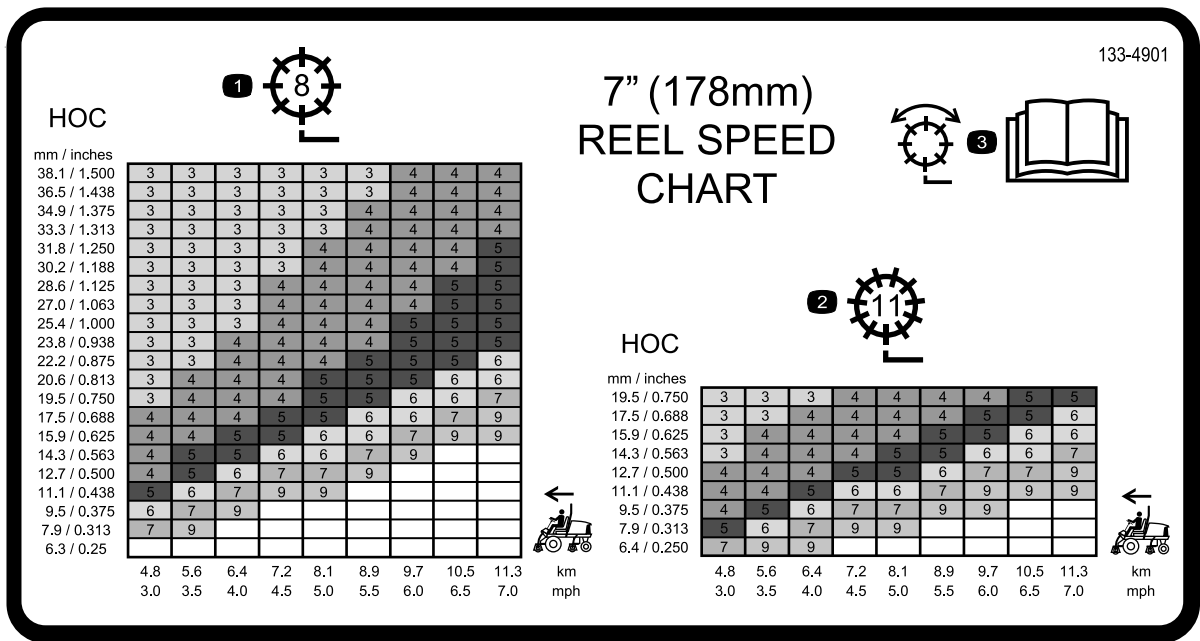
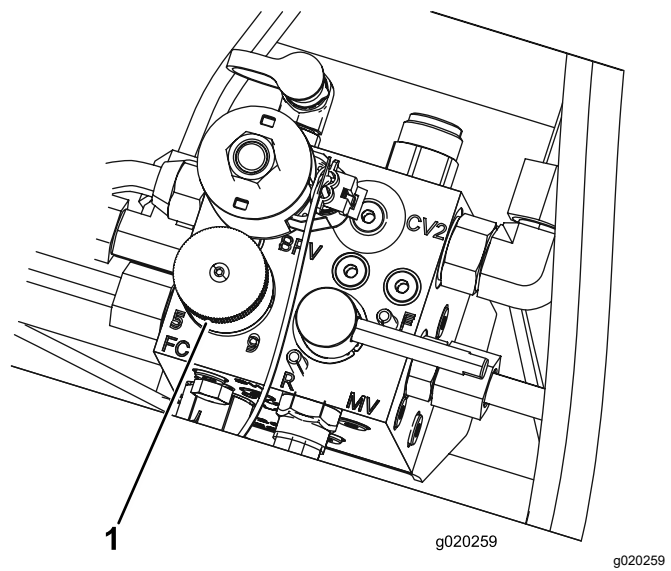

**Figure 35**
**Figure 36**
3. Use the graph on the reel speed chart decals (Figure 35 and Figure 36), to determine the proper reel speed setting.